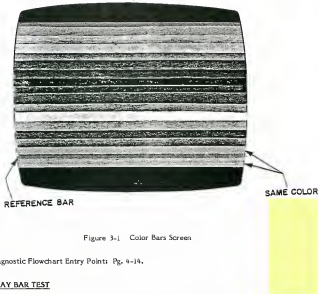

Figure 3-1 Color Bars Screen
- **Format:** A screen of horizontal color bars displays (see Figure 3-1). The screen should be steady and unchanging. A gray or blue horizontal reference line runs across the screen about three bars from its bottom. This reference line is thinner than the bars around it. R8 should be adjusted so the bars immediately above and below the reference line are within one shade of each other. Proper operation of the unit is indicated by being able to make this adjustment and by consistent color within the entire span of each bar on the screen. Minor glitches on the edges of the color bars are acceptable. Leave this test on for at least ten seconds in order to catch any intermittent problems, such as a bar momentarily changing colors or blanking out.